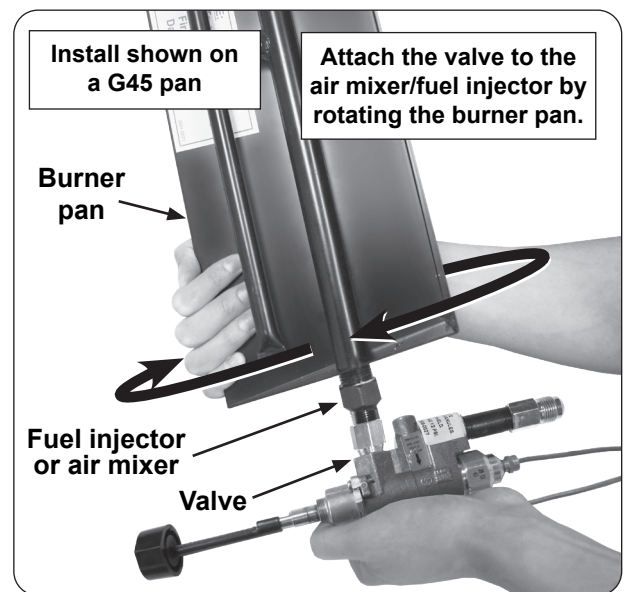

Fig. 5-2 Install valve
2. Install the valve to the fuel injector or air mixer by screwing the pan into the valve (Fig. 5-2). Take care not to damage the attached pilot assembly when rotating the burner pan. Be sure all connections are tight, however do not overtighten to prevent damage to the valve.